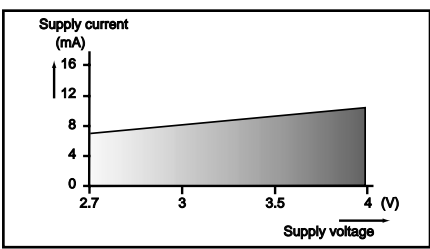

figure 3: Consumption vs. Supply Voltage
- Sensitivity is affected by antenna SWR. See figure 3.